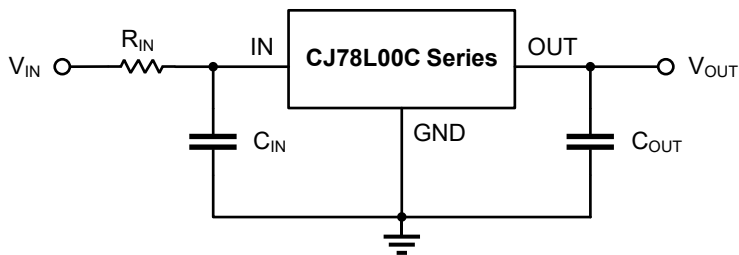

Figure 9-3. Resistance is used at IN
2. Place a resistor with appropriate resistance in series before the IN of the voltage regulator, which can help the voltage regulator share part of the energy in case of surge. The resistance value of the resistance should not be too large. The specific resistance value depends on the application of the circuit. Generally, the resistance value of this resistance does not exceed 20Ω. As shown in Figure 9-3.
The CJ78L00C series can obtain better transient response with the help of output capacitance. However, if the output capacitor is relatively large, the surge current generated by the charging of the output capacitor will also be large at the moment of power on of the regulator, and the large surge current passing through the regulator may damage the internal circuit. When the output capacitance is large, adopting the circuit design shown in Figure 9-3 will reduce the possibility of damage to the device due to large surge current to a certain extent. It is recommended that the selection of output capacitor should not exceed 20μF. **If the selection of output capacitor exceeds 20μF, it is recommended to adopt the circuit design in Figure 9-3 to reduce the possibility of accidental failure of the device due to large surge current during power on.**